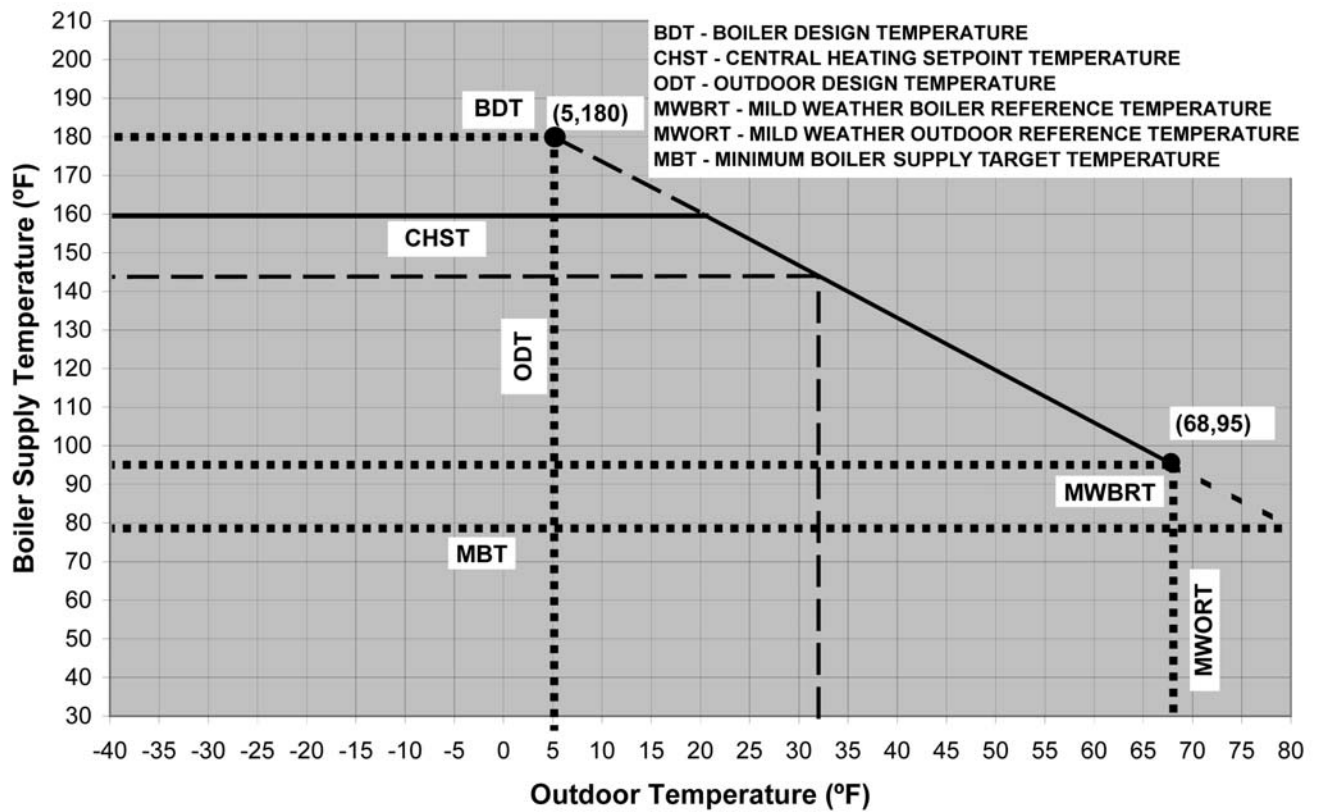

Figure 6.6: Central Heating Curve (Factory Defaults)
5. Figure 6.6 shows a graph of the heating curve with the default design and mild weather reference point. It also illustrates how the boiler target temperature varies according to outdoor temperature.